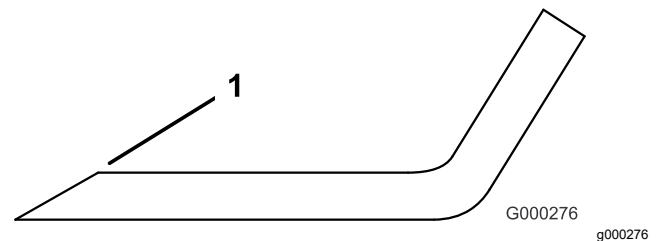

Figure 131
3. Examine the cutting edges of all of the blades and sharpen the cutting edges if they are dull or nicked (Figure 131).
Note: Sharpen only the top of the cutting edge and maintain the original cutting angle to ensure sharpness (Figure 131). The blade remains balanced if you remove the same amount of metal from both cutting edges.